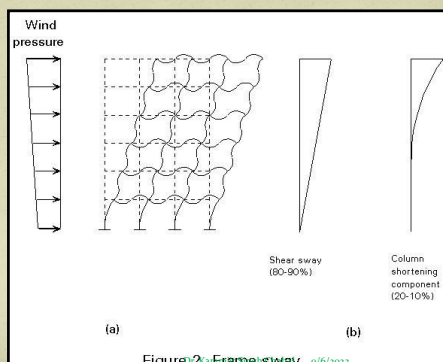

Figure 2: Frame sway 9/6/2022
- ❖ In these shear frames; the predominant contribution to sway deflection under wind load comes from the bending of beams and columns due to the wind shear and to a smaller extent, from column shortening or the cantilever component (Figure 2).